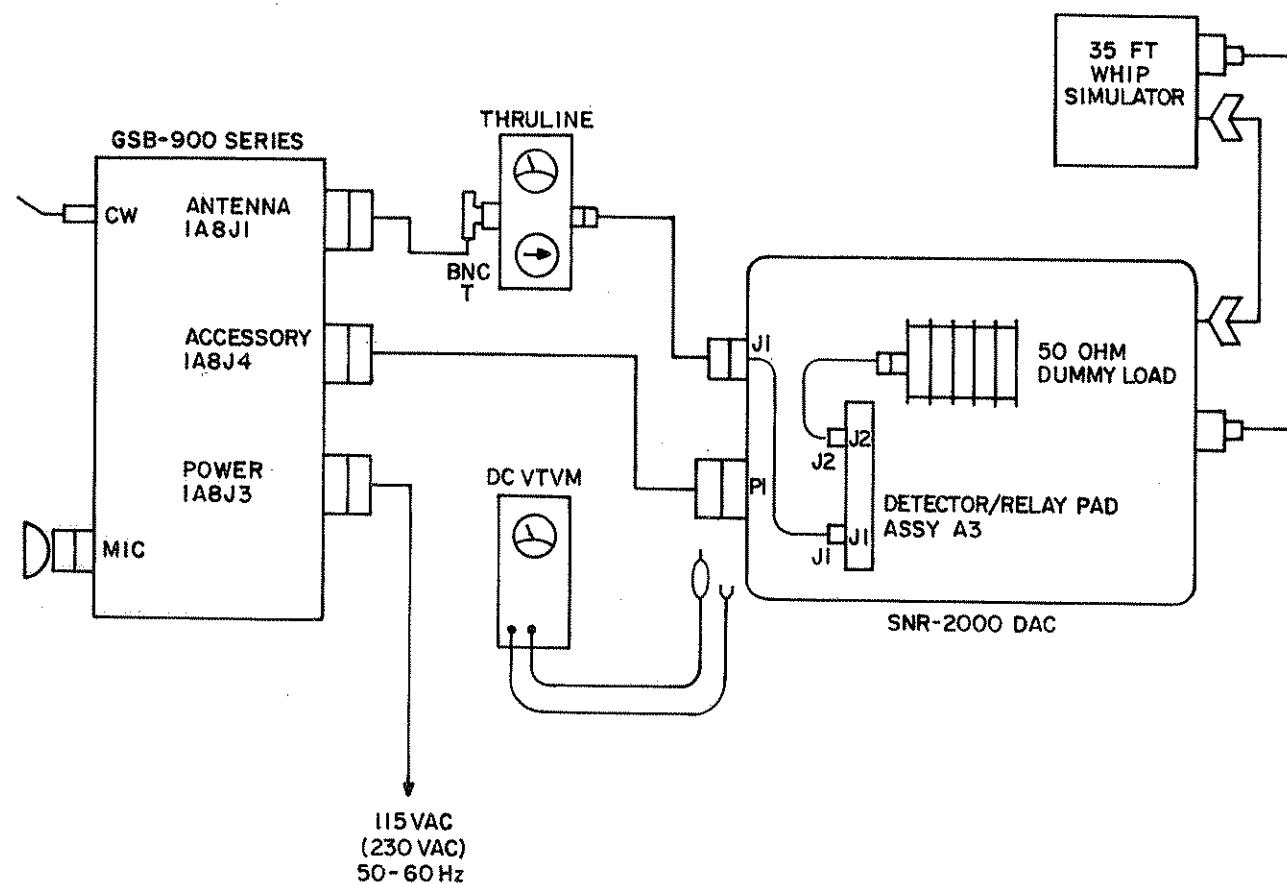

FIGURE 5-9 DETECTOR/RELAY PAD ALIGNMENT SETUP
1. Disconnect RF cables from A3J1 and A3J2 and reverse them so that the 50 ohm dummy load is now connected to A3J2 and RF input to the coupler is connected to A3J1. (See Figure 5-9.)